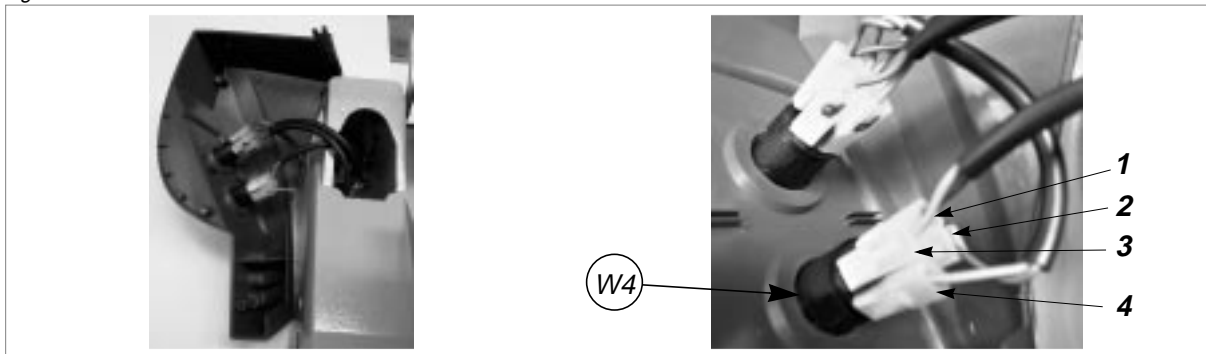

Fig. 32
- 10) Remove the connectors (1, 2, 3, 4), paying attention to their positions (fig. 32, page 25).